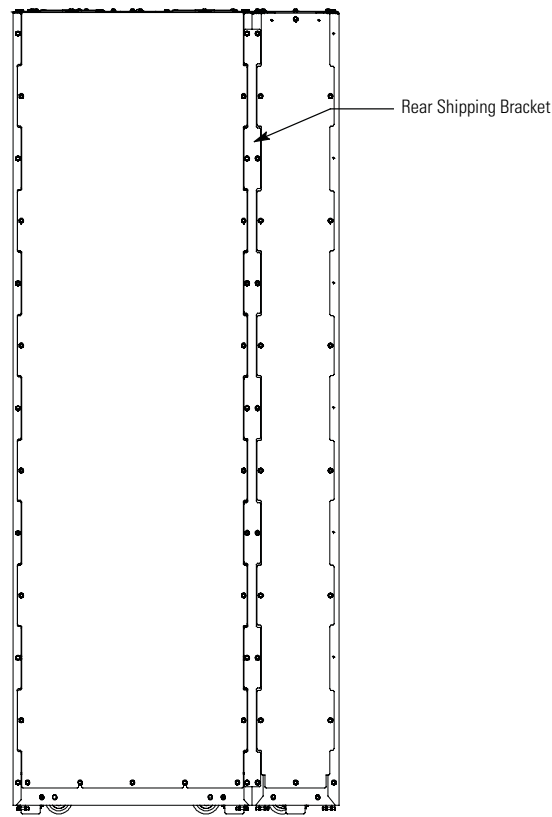

Figure 4-3. Removing the Sidecar Rear Shipping Bracket – Eaton 93PM UPS
18. If a sidecar is attached to the UPS, remove the screws securing sidecar rear shipping bracket. Remove the bracket and reinstall the screws (see Figure 4-3).